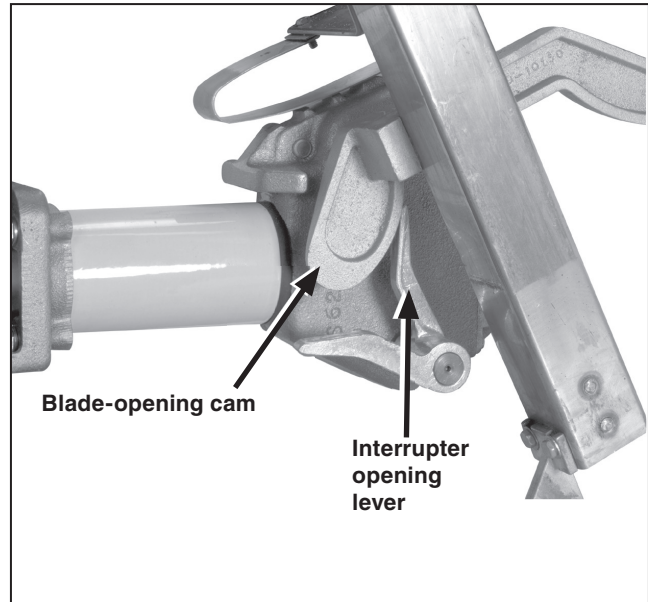

Figure 34. The blade assembly moving in the opening direction.
- (d) Move the blade in the *opening* direction and verify each blade shunt contact firmly engages its respective interrupter housing before the blade contacts disengage from the stationary main contact assemblies. See Figure 34. The shunt contacts may be bent as required to conform to these conditions.